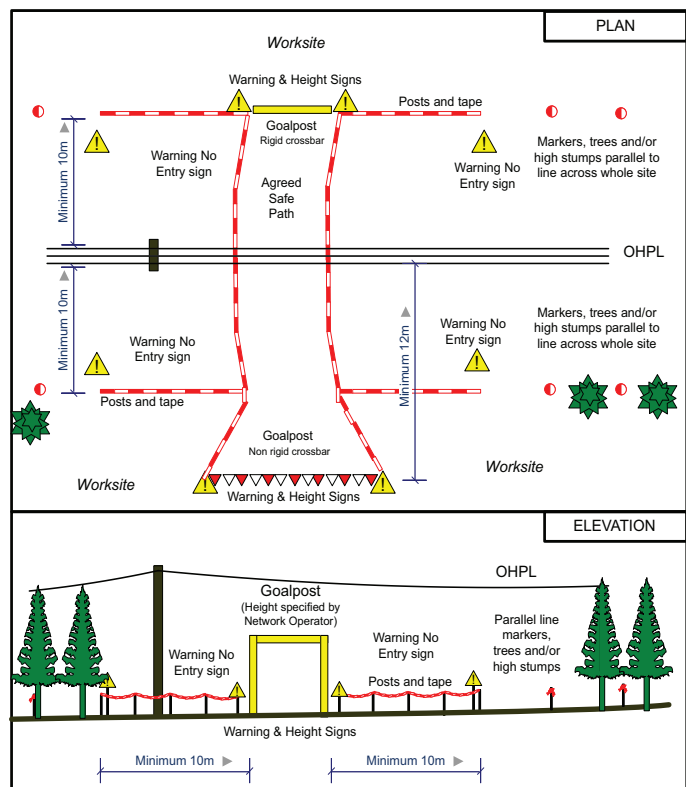

Figure 1: Site layout
- ❑ 27 Within the worksite, the FWM will clearly identify the safe clearance for driving alongside OHPLs and underground cables by providing suitable barriers. In many cases, marked trees or high stumps will form the basis of a suitable barrier, as long as there is no opening which would allow access for vehicles. The absolute safe minimum driving distance from the barriers to the OHPL is 10 m. The Network Operator may advise distances greater than 10 m depending on the voltage of the line and the nature of the terrain. See Figure 1.